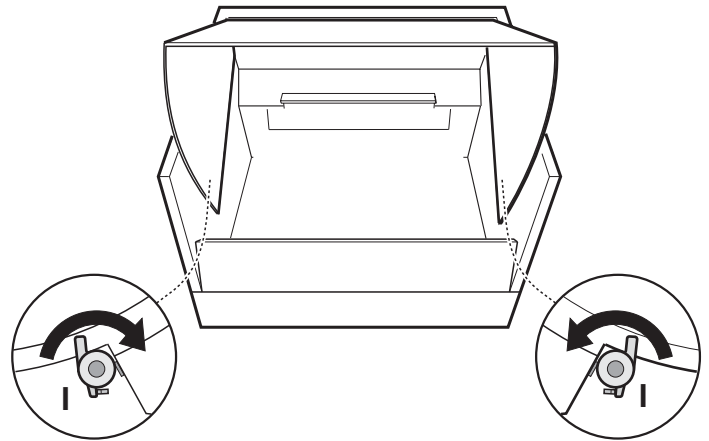

Fig. 9
- Remove the visor (freeing the locking releases I-Fig.9).